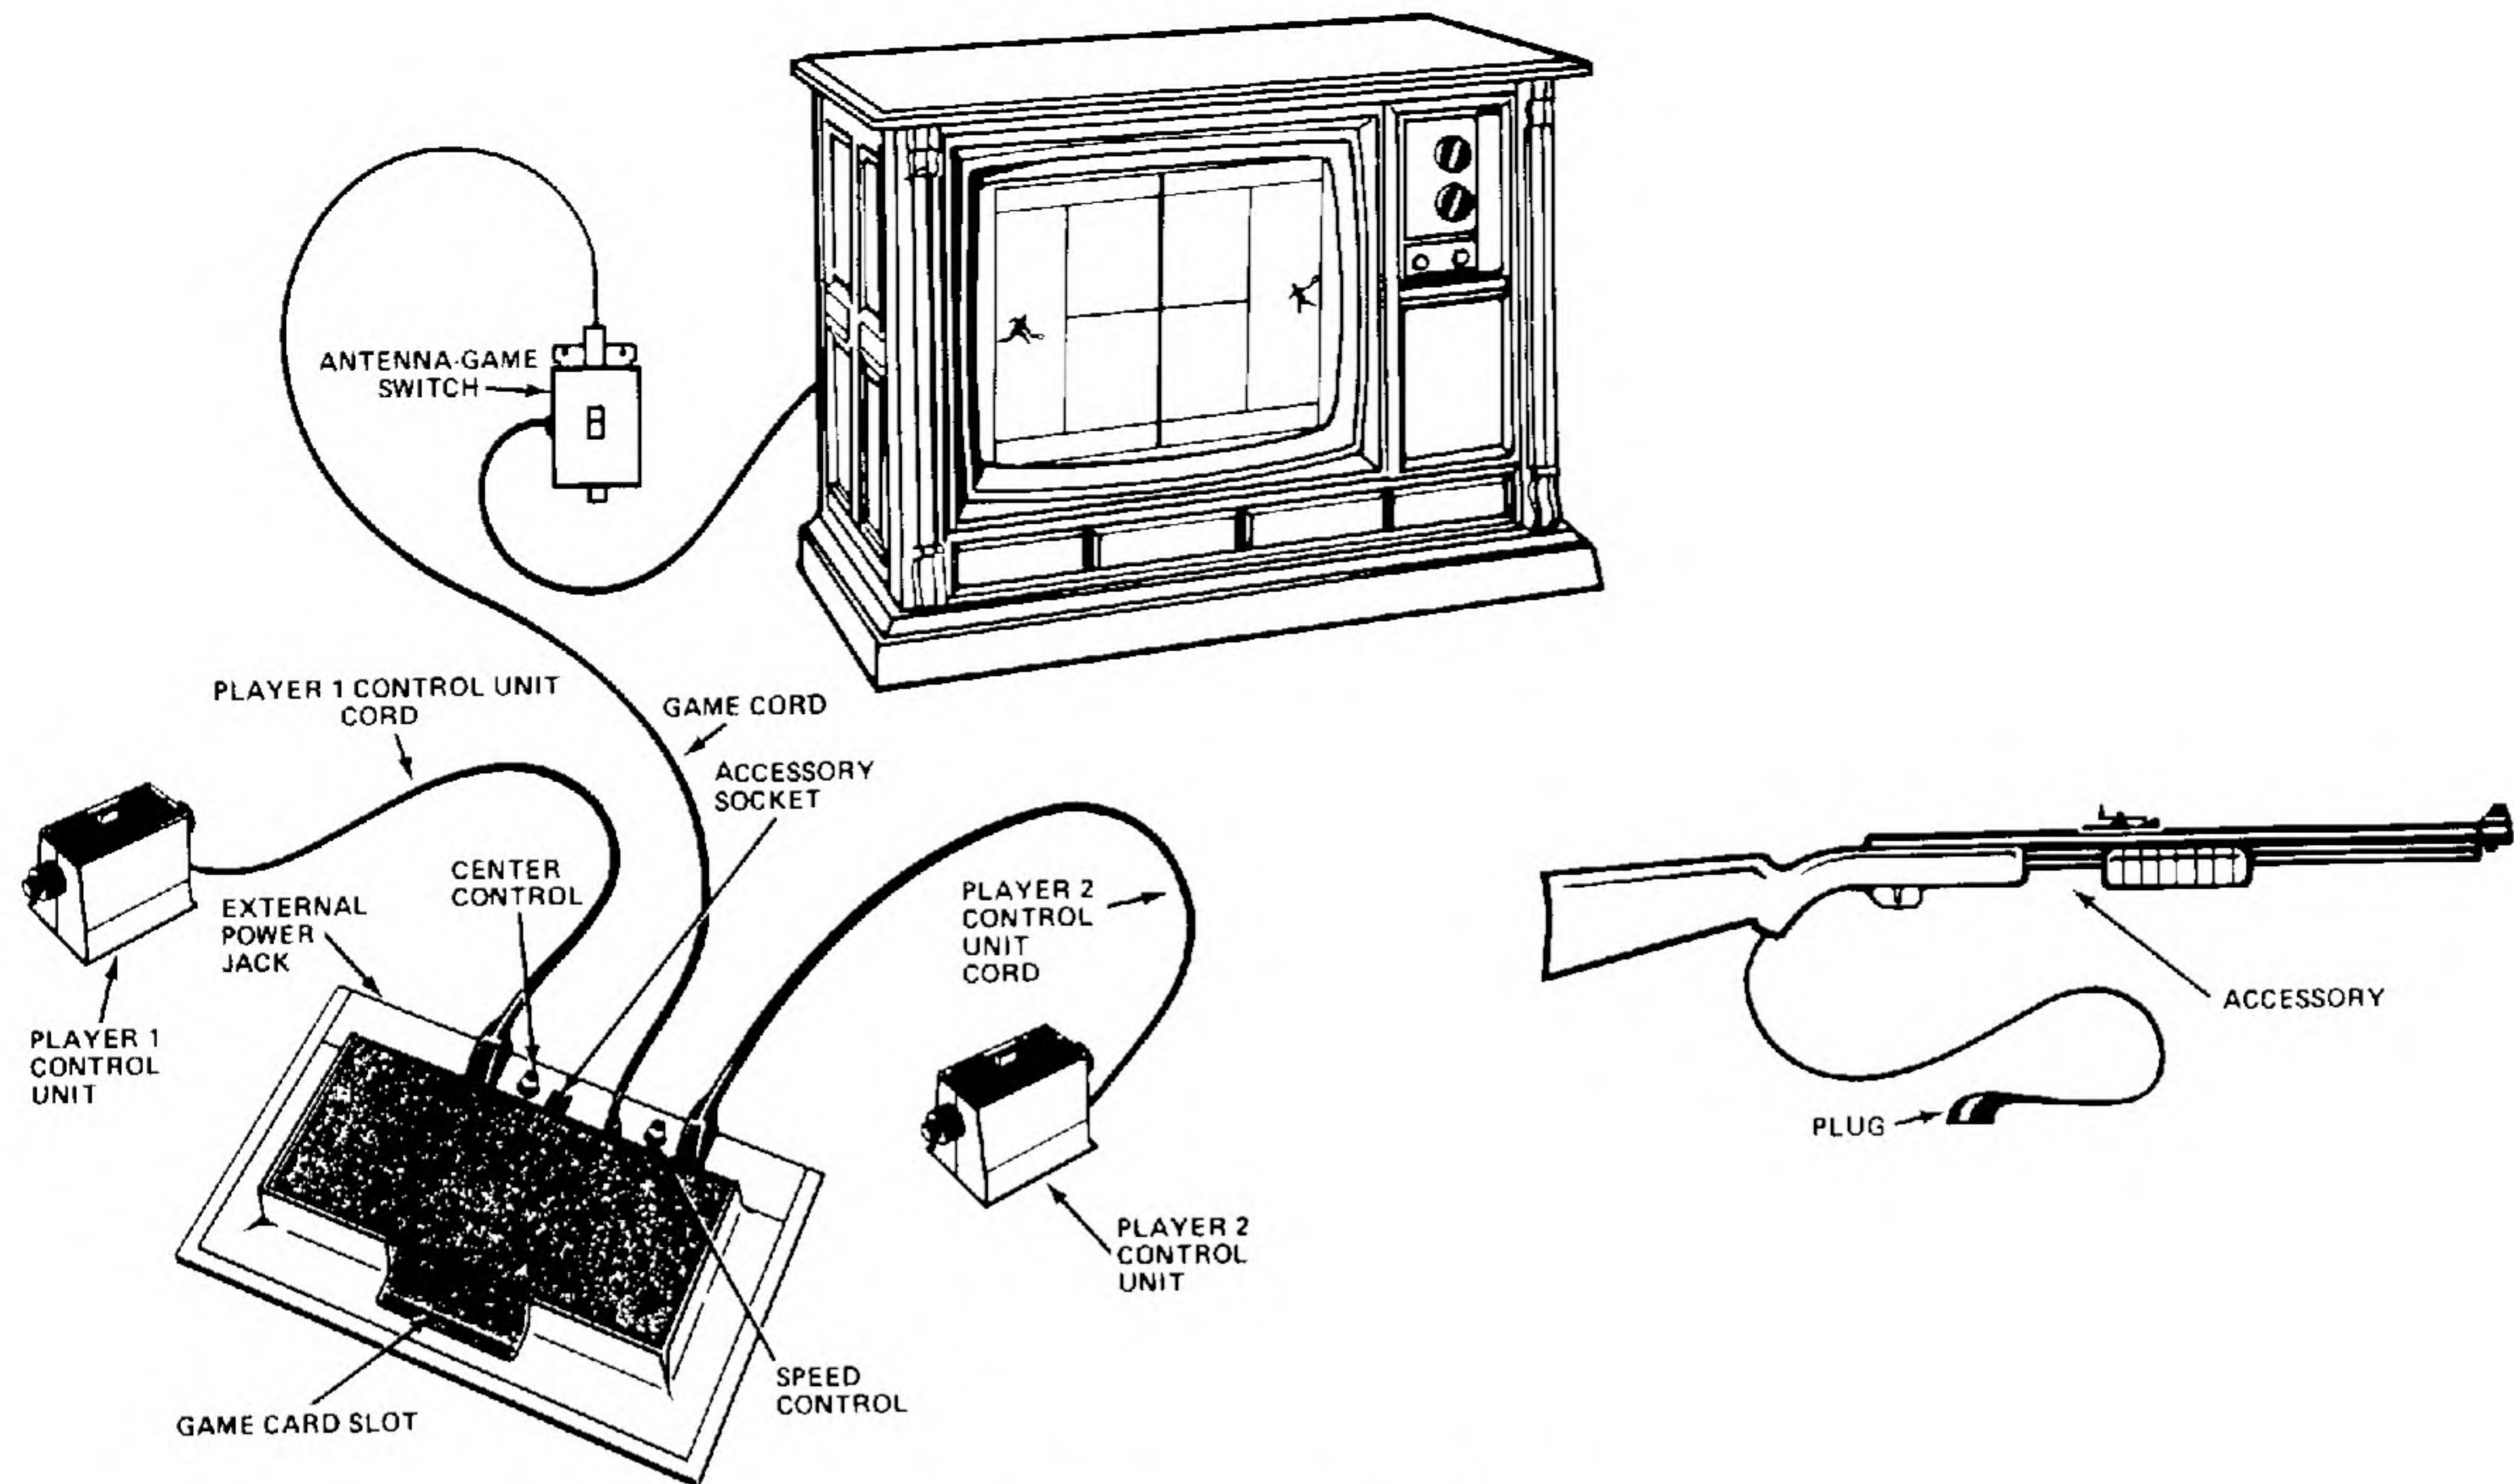

Figure 2 -- Odyssey Game Setup with Rifle Accessory
The Odyssey game is connected as shown in Figure 2. The Master Control Unit generates the video, sync and RF signals necessary to produce two Players, a Ball and a Wall on the television screen.
1. Plug the Player Control Unit cables into the Master Control Unit as illustrated in Figure 2. The two Player Control Units are identical; however, the Player Control Unit connected to the PLAYER 1 socket will be called Player Control Unit Number 1 and the one connected to the PLAYER 2 socket will be called Player Control Unit Number 2.